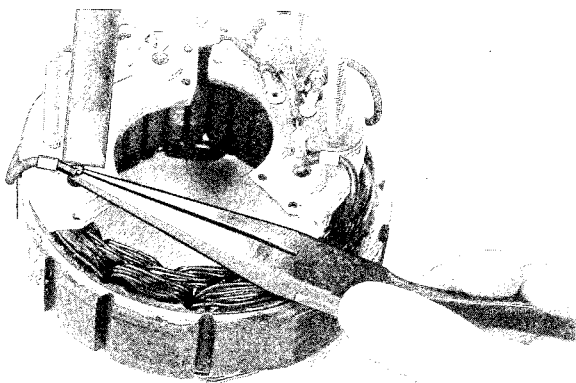

Fig. 3-15. Soldering on diodes
3. Solder on the diodes, see Fig. 3-15.